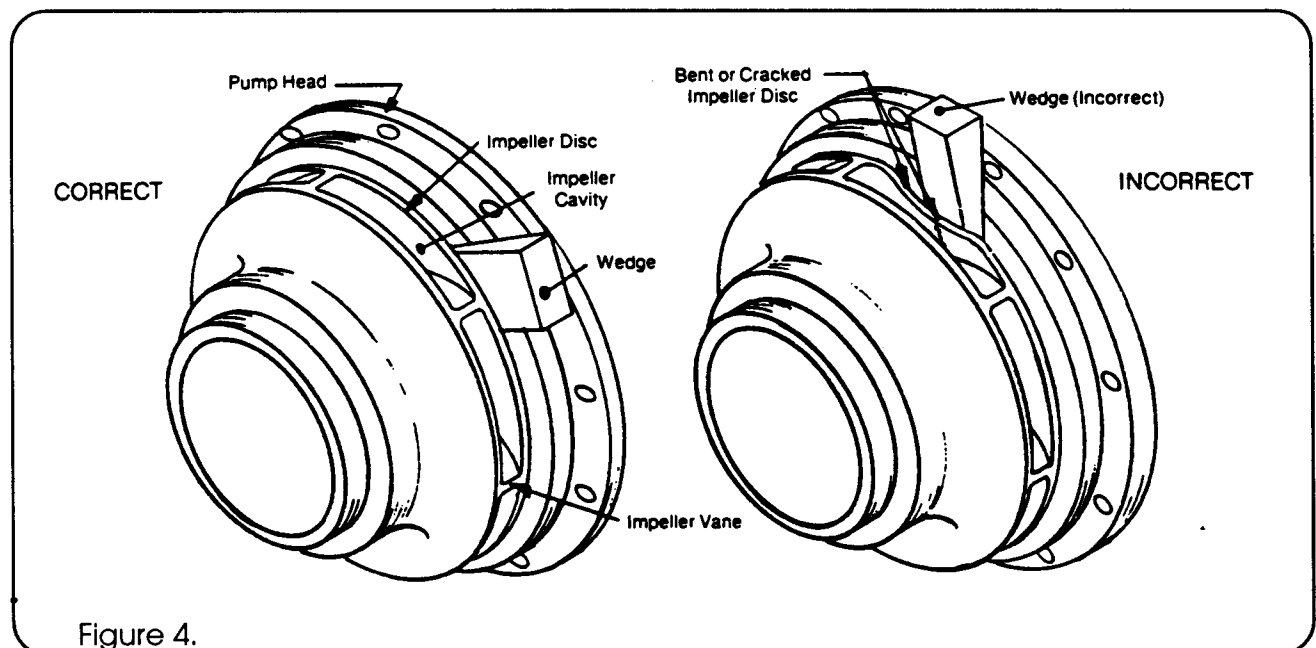

Figure 4.
d. Remove impeller by putting hardwood wedges on each side of impeller, between impeller and pump head. The wedges should bear against impeller disc directly behind impeller vanes to prevent damaging the impeller; refer to figure 4. Tap end of engine shaft with a Soft (rawhide, rubber) headed mallet, while maintaining pressure with wedges until impeller comes off.